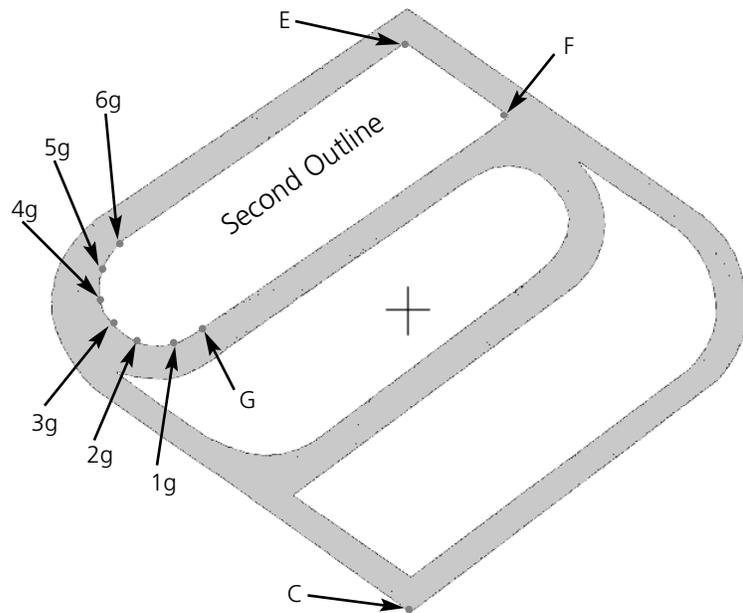

Figure 3-67
1. Enter a Mk1 at point E as illustrated in Figure 3-67. This is the upper corner point of the top section of the Saurer logo.